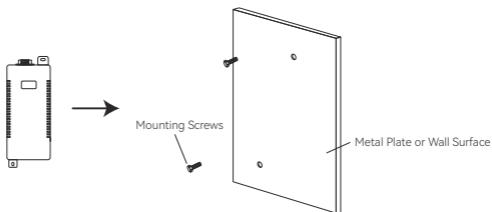

Figure 3-2 Illustration of Fixed Installation
(3) Tighten the screws after passing them through the product to secure it in place, as shown in Figure 3-2.